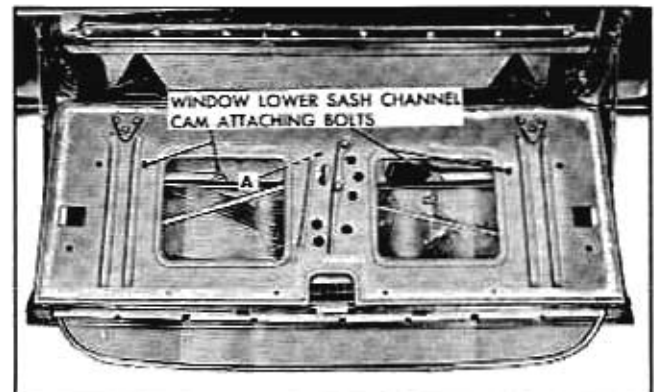

Fig. 4-15 Tail Gate Window—Removal
2. Detach tail gate inner panel water deflector sufficiently to gain access to window lower sash channel cam attaching bolts (Fig. 4-15). Remove tail gate inner panel access hole cover.
3. Carefully operate window upward until the window lower sash right and left cam attaching bolts are accessible through access holes, as shown in Fig. 4-15.
4. Remove window lower sash channel right and left cam attaching bolts (Fig. 4-15), disengage cams from window lower sash channel; then, carefully pull window assembly out of tail gate.
sembly is removed, depress tail gate lock remote control locking lever through access hole at location A, Fig. 4-15, and at the same time operate the tail gate remote control inside handle.
2. Detach tail gate inner panel water deflector sufficiently to gain access to access holes, shown in Fig. 4-15, for removal of assembly attaching nuts.